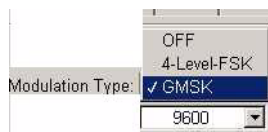

Figure 2-23. Modulation Type
2. From the **Modulation Type** control (Figure 2-23 on page 2-28), select a modulation scheme that will be used by your base radio-modem. .